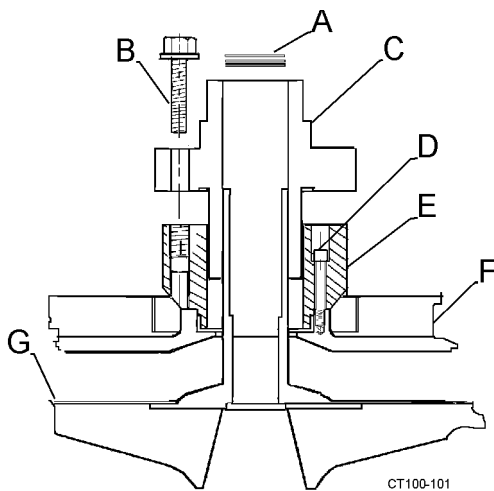
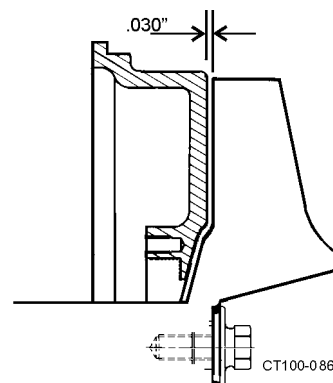

Figure 56 - Remove Seal Assembly.
Figure 57 - Clearance Between Impeller and Backplate
NOTE: The clearance shims that position the impeller within the casing are at the end of the impeller hub (inside the seal.) Keep shims together as a set for reassembly. (Figure 56).
5. Remove cap screws (Figure 56, item B) holding the cartridge seal to the seal adapter. (Figure 56, items C and E).
7. Pull seal from seal adapter. (Figure 56, items C and E).
8. Remove seal adapter by removing socket head cap screws (Figure 56, item D) holding adapter to the back plate.
Table 14: Callouts For Figure 56
2. Check impeller/backplate clearance with the backplate held firmly in position against motor adapter. Check the space between the back of the impeller and the backplate with a feeler gauge (.030 nominal) while holding the backplate tight against the bearing housing flange. (Any axial movement of the shaft should not be added to the .030 nominal clearance). (Figure 57). If needed, change this clearance by adding or removing shims. Shims (Figure 56, item A) are added on the drive shaft behind the impeller shaft (Figure 56, item G).